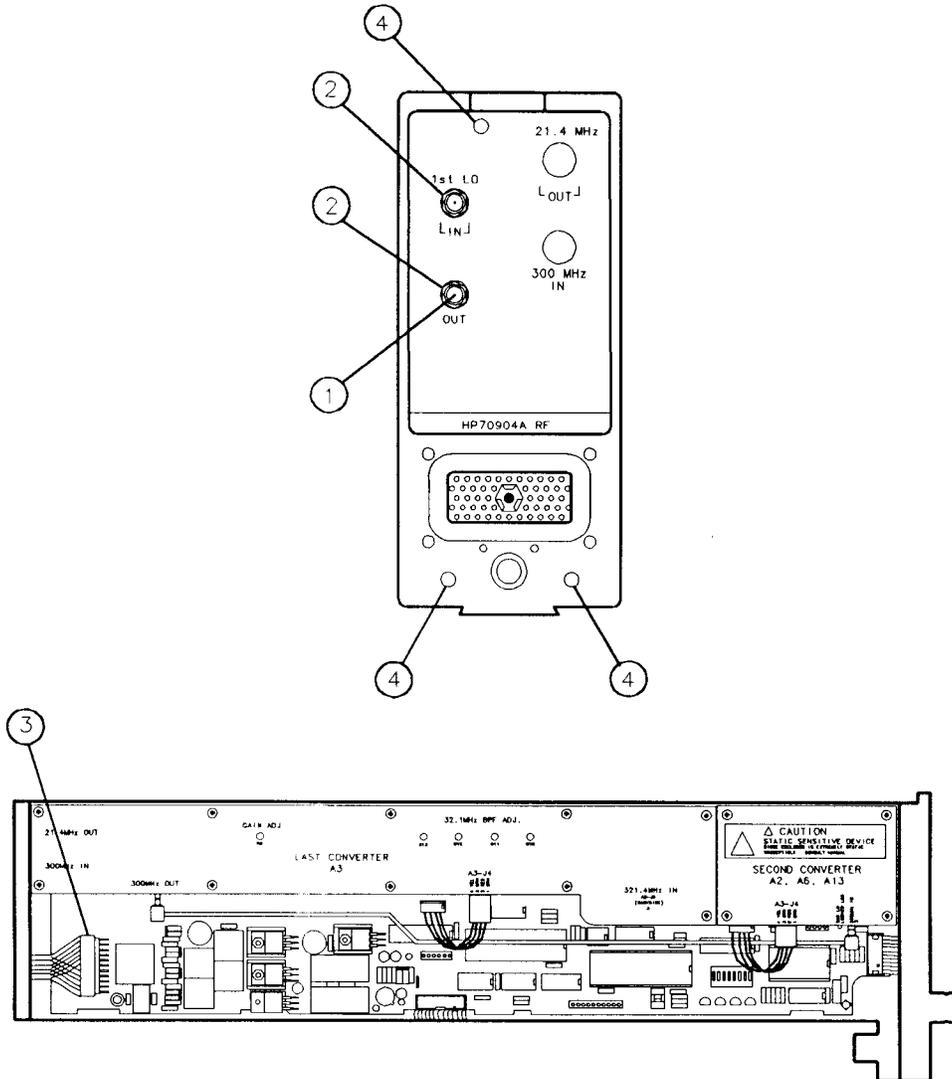

Figure 6-16. Rear Panel Replacement
2. Remove the 1st LO OUT 50Ω termination from rear-panel J3 (1). See Figure 6-16.
3. Remove the SMA lock-nuts from rear-panel J2 1st LO IN and J3 1st LO OUT (2).
4. Remove both of the side covers and disconnect the W18 mylar ribbon cable from the A4 Power Supply/Controller J1 (3).
5. Remove the three screws securing the rear panel to the RF section frame (4).